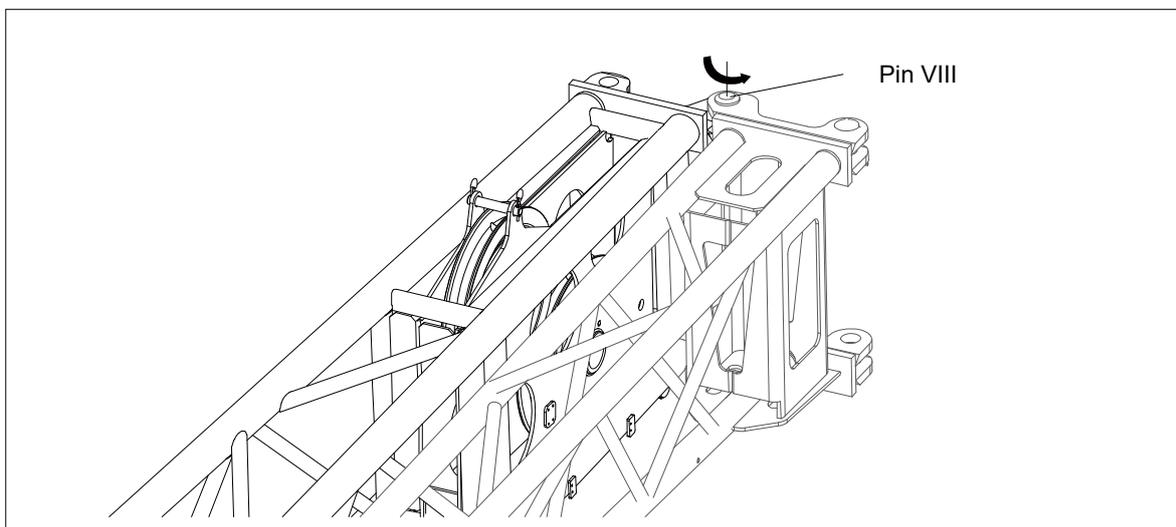

Figure 5-12 Jib section 2 rotation
- k) Rotate jib section 2 around pin VIII to the jib section 1 right ahead. Refer to Figure 5-12.